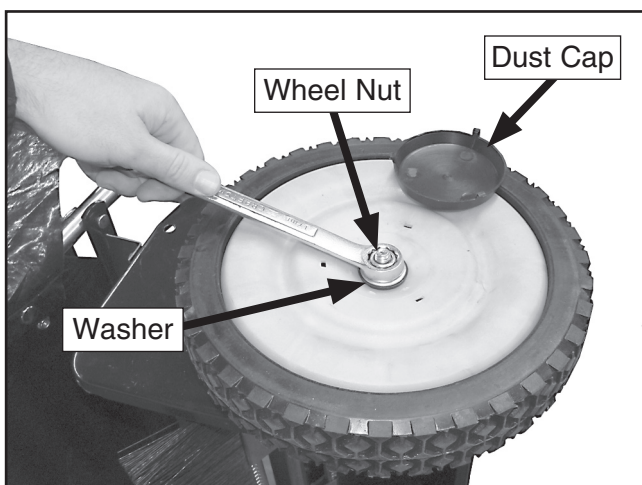

Figure 21. Wheel nut removal.
2. With the sweeper still on its side, remove the dust cap on the exposed wheel, then remove the wheel nut and washer, as shown in **Figure 21**.